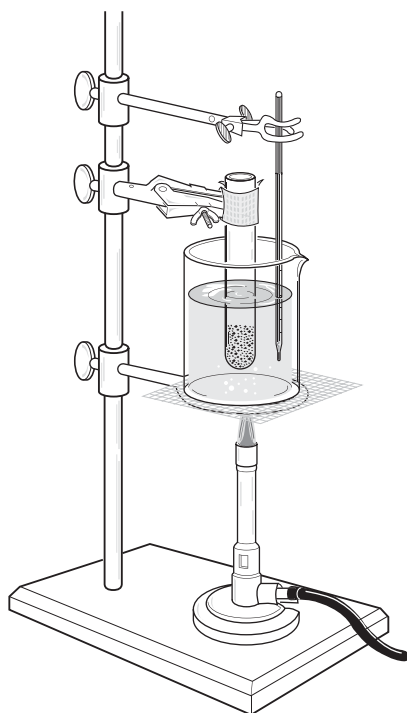

Figure 9.3
- 0.01 g (3). Determine the mass of the metal by subtraction (4). Pour the sample into a 150 × 25 mm clean, dry test tube.
- Place the test tube in the water bath as shown in Figure 9.3. Be sure that all of the metal in the test tube is below the surface of the water. Heat the water to a gentle boil and keep the test tube in the bath for 10 min. Make certain that water does not splash into the test tube.
- While the metal is heating, follow the temperature of the cold water in the calorimeter for 5 min.; record the temperature on the Data Sheet (p. 112; enter your temperatures using the blanks in the right column) at 1-min. intervals. After 5 min., record the temperature on the Report Sheet of the cold water to the nearest 0.2°C (5).
- After 10 min. of heating the metal, observe and record the temperature on the Report Sheet of the boiling water in the beaker to the nearest 0.2°C (6). Obtain and use another thermometer for the calorimeter.